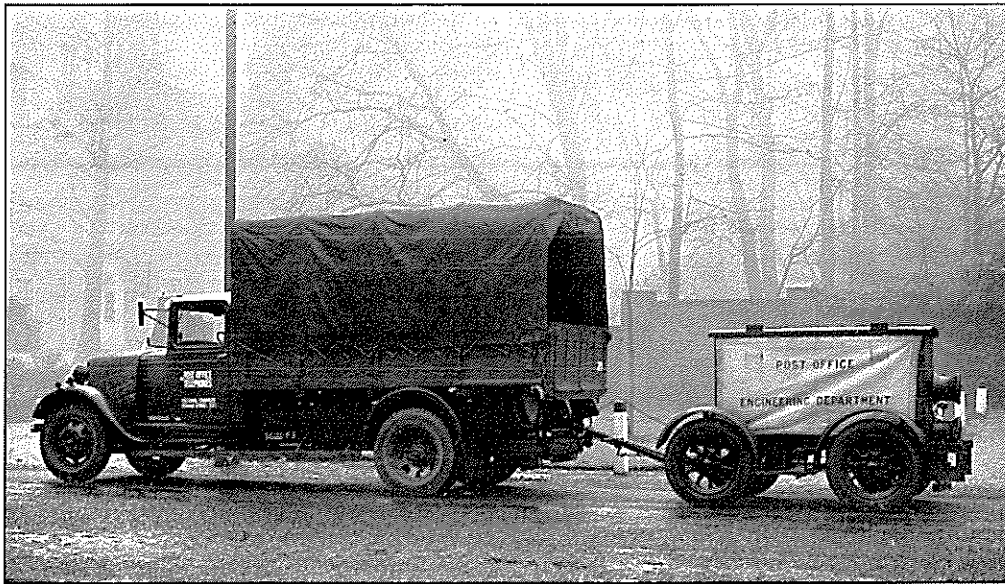
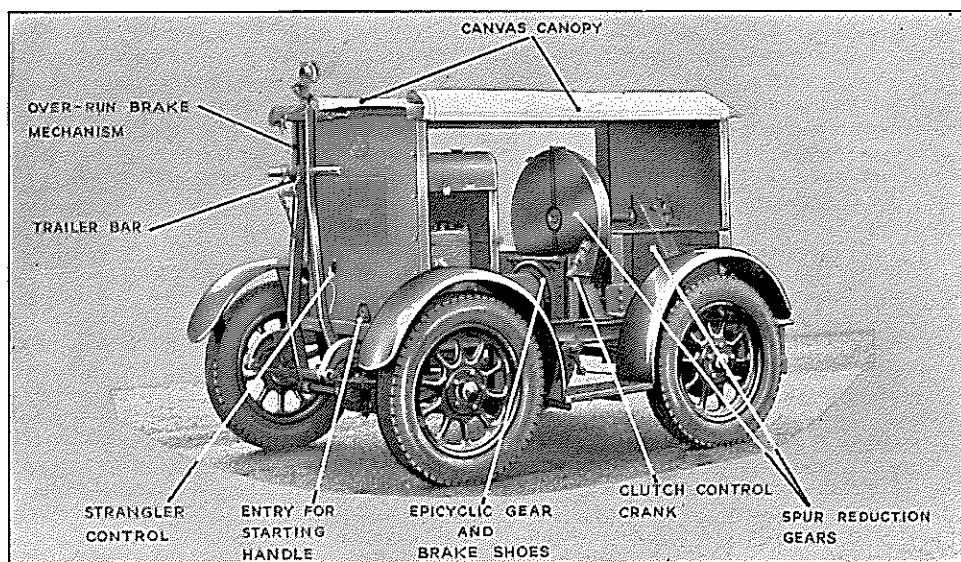
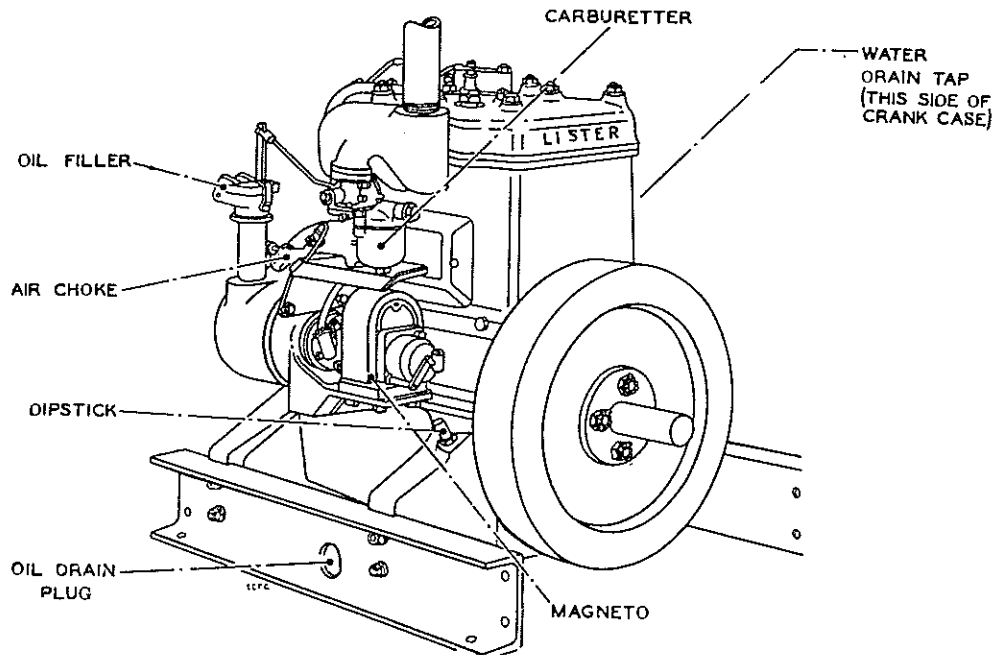

FIG. 1.—LACY-HULBERT WINCH—TRAILER TYPE (ON TOW)
FIG. 2.—LACY-HULBERT WINCH—TRAILER TYPE (FRONT VIEW)
FIG. 4.—ENGINE DETAILS
1. **General.**—The Lacy-Hulbert trailer-type winch consists of an industrial-type petrol engine suitably geared to two horizontal capstans, the whole being mounted on a four-wheeled pneumatic-tyred chassis capable of being trailed behind a motor vehicle. Fig. 1 shows the winch on tow behind a motor vehicle, and Figs. 2 and 3 give views of the winch with canopies raised, showing the mechanism and controls. A line-drawing showing engine details is given in Fig. 4.
3. **The drive** is communicated through a flexible coupling, an epicyclic reduction gear and double reduction spur-gearing as shown in Fig. 2.
12. *Before starting the engine* (See Fig. 4.)
(g) Release the brake on the epicyclic-gear box by operating the clutch control crank (Fig. 2), i.e.